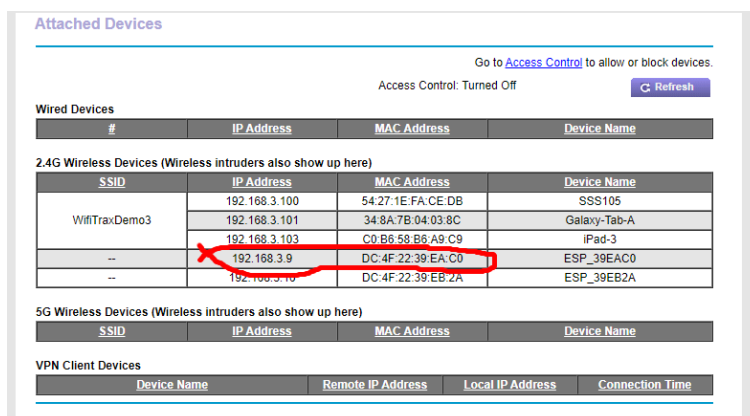

Figure 42 Typical "Attached Devices" page of a router
- (6) You will see a screen something like Figure 42. Find the row where the MAC address matches that printed on the bag label of your WFD-27 device. Here the MAC Address DC:4F:22:39:EA:C0 matches the STA MAC Address on the bag label, so the IP Address is 192.168.3.9
- (7) Now open another tab in your browser and type the IP Address, 192.168.3.9 in this case, into the address bar to get the main menu web page.
Then type in the information from Figure 42, give the reservation a name "WFD-27" and hit Add as Figure 45.